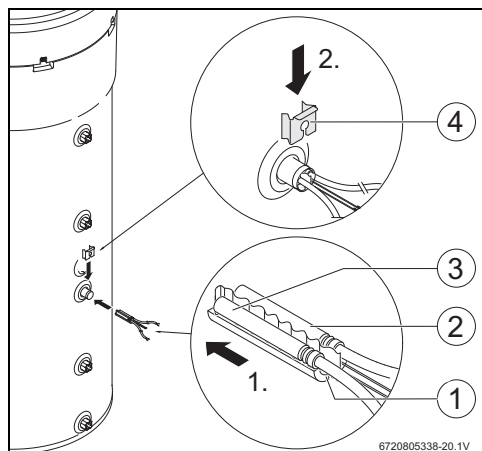

Fig. 7
- ▶ Install the installation set (Fig. 7, [1]), the temperature sensor connected to the accessories (Fig. 7, [2]) and the temperature sensor connected to the controller (Fig. 7, [3]), and position them as shown in Fig. 7.
- ▶ Attach the fastening clip (Fig. 7, [4]).